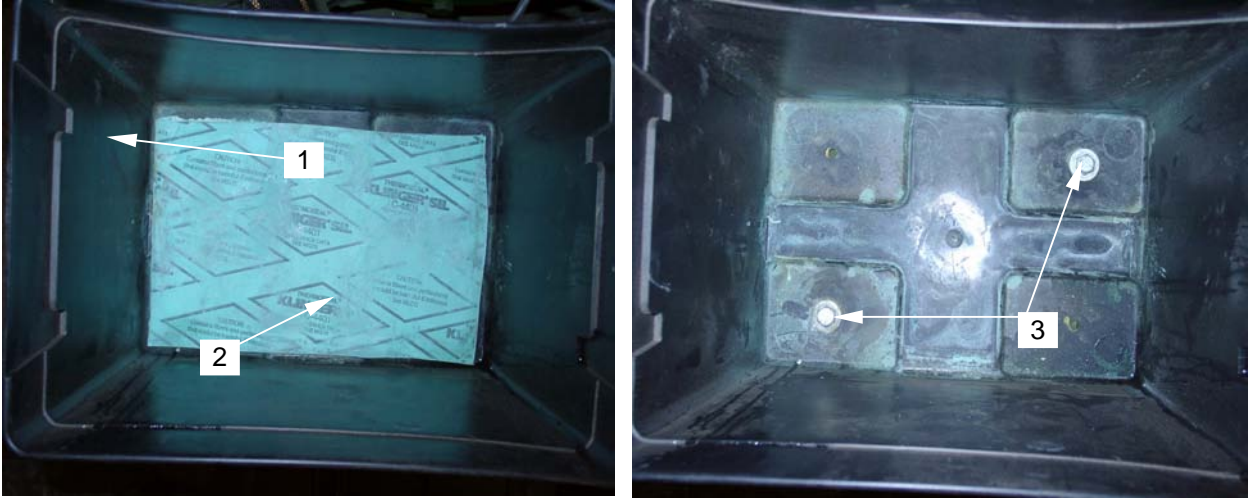

Figure 4. Removing Battery Box
7. Remove battery from battery box (**figure 4, item 1**).
9. If the battery box is to be replaced, remove the cushioning material (**figure 4, item 2**) from the bottom of the box.
10. Remove two bolts and flat washers (**figure 4, item 3**) from the bottom of the battery box. Retain hardware. Remove the box (**figure 4, item 1**) from the skid.